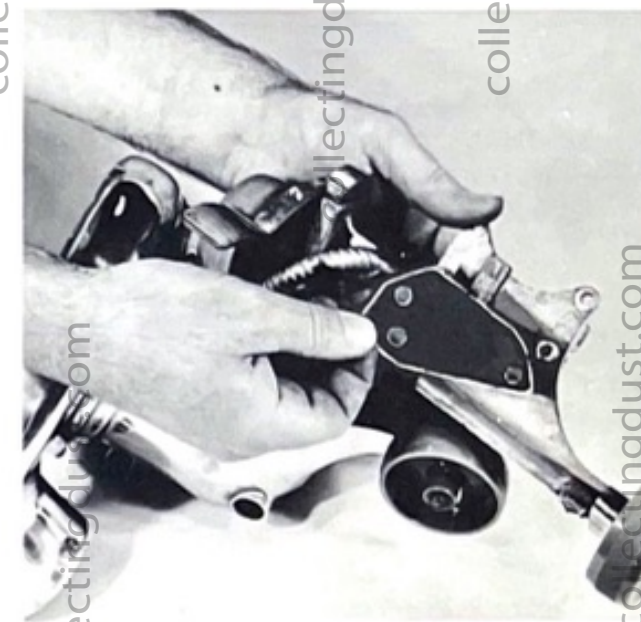

Figure 1-11. Position large insulator over safety switch
(5) Position the large insulator (57) over the safety switch parts as shown in figure 1-11. While holding the safety switch parts in place, align the wheel bracket casting with the fan housing (56, fig. 1-1); secure with the two shorter screws (63) in the top holes and the screws (64) and (68) in the lower holes.
(6) Check that the safety switch slide operates without binding.